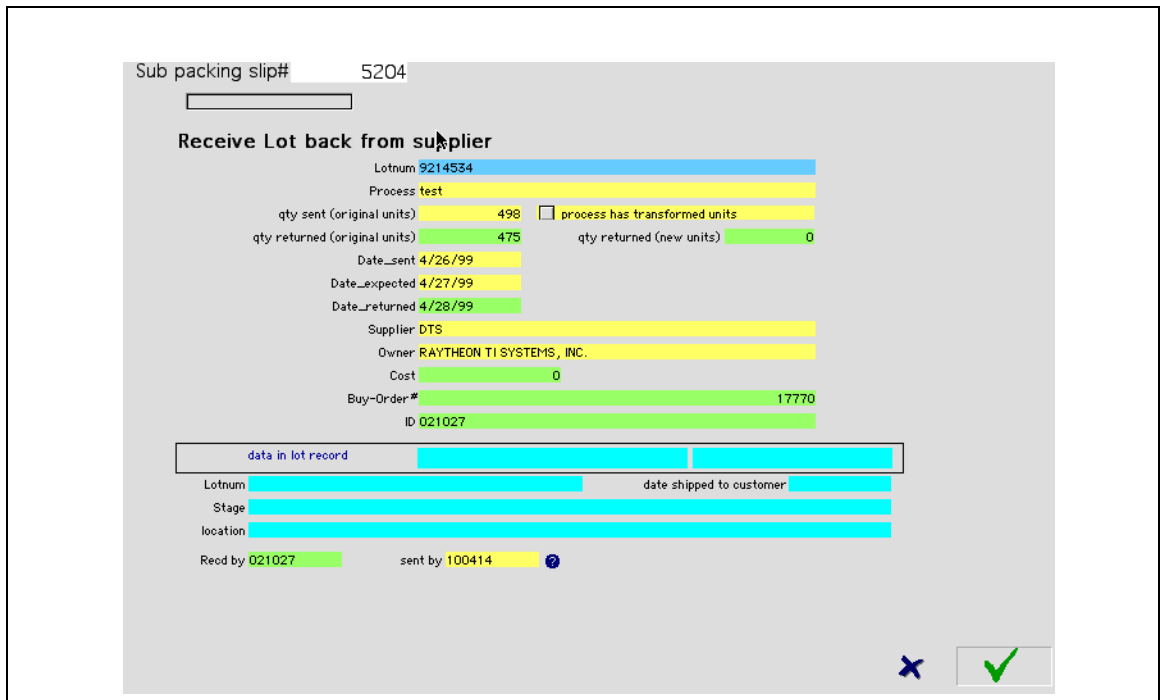

FIGURE 18.5
-Receive a lot from a subcontractor back into the ERP2020. Note that in the virtual manufacturing mode where a build-job is created via a Routing-Card, this menu will not be used since the shipment process to a sub-contractor and its receipt is done automatically by the ERP2020. If manual intervention is required this menu is used See figure 18.5 on page 18.51.